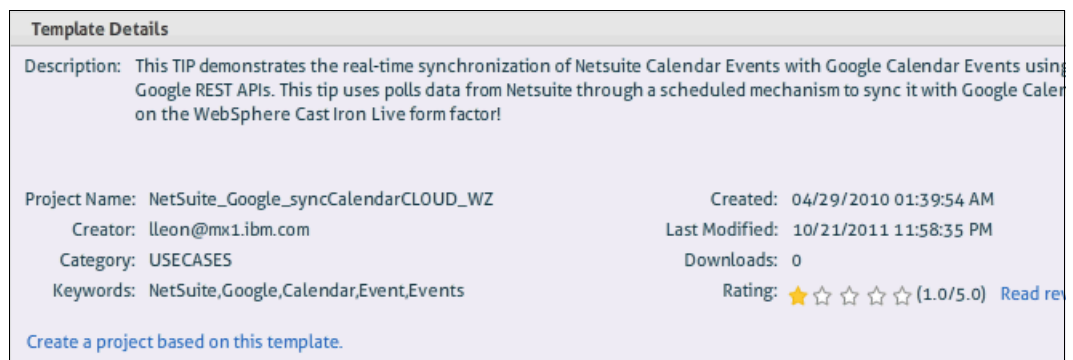

Figure 11-7 Template details for the selected TIP
- Click **NetSuite \_Google\_syncCalendar\_CastIronLive**. Template details display in the bottom pane, as shown in Figure 11-7.